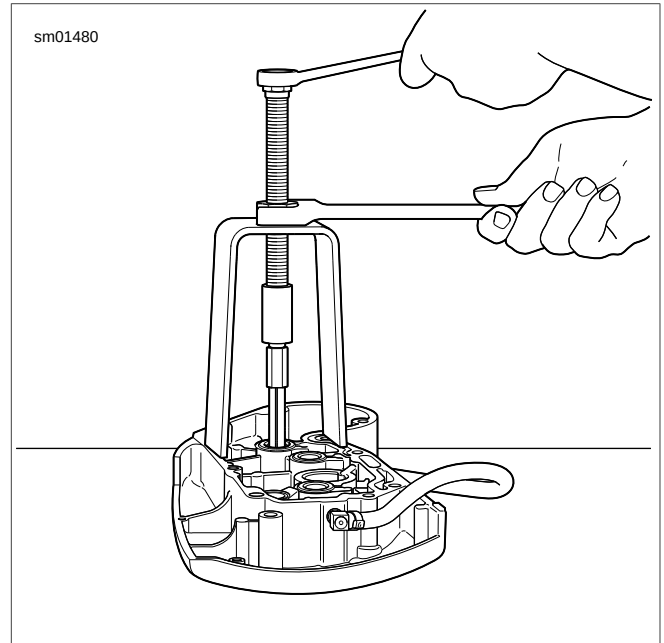

Figure 3-115. Removing Cam Bushing from Gearcase Cover
- See Figure 3-115. Use BUSHING AND BEARING PULLER (Part No. HD-95760-69A) to remove bushings from gearcase cover and crankcase.